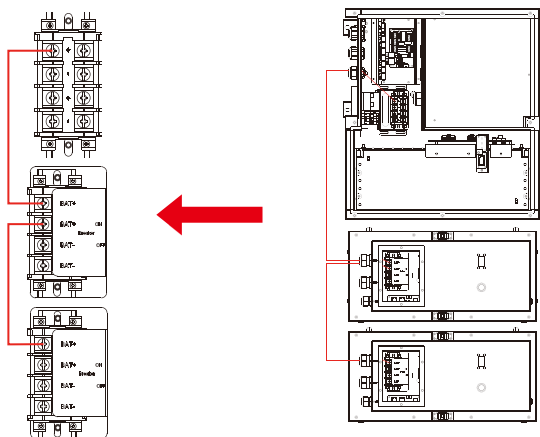

Figure 2.35 Connect the Positive Power Line
Step 18 Connect positive power line for expansion (Figure 2.35).